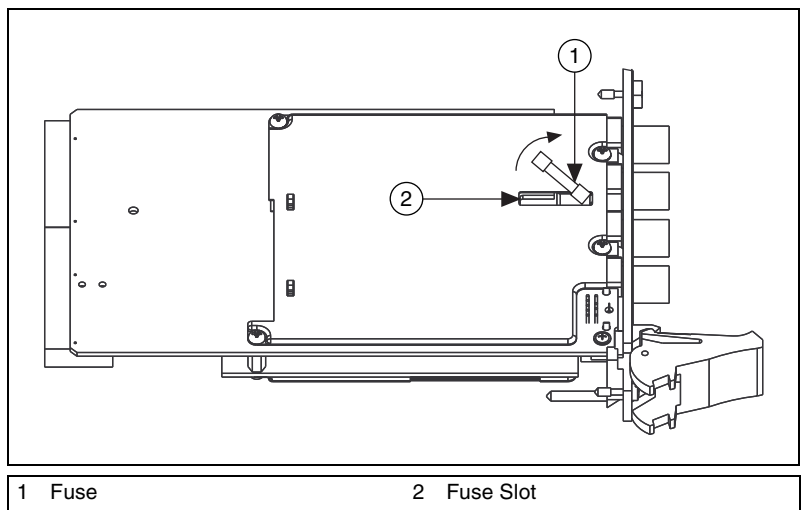

Figure 21. Removing the Fuse from the NI PXI-4070
6. Locate the fuse slot shown in Figure 21.